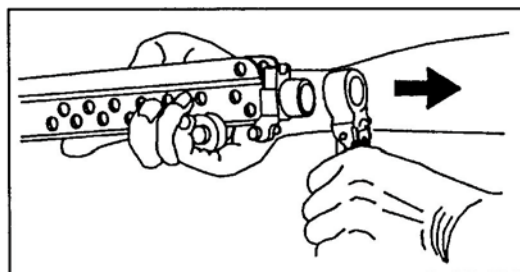

Figure 14. Removal of the bipod.
- j. Remove the bipod. The bipod should slip off the receiver easily. If it does not, turn the bipod left or right to loosen any dirt or corrosion (Figure 14).